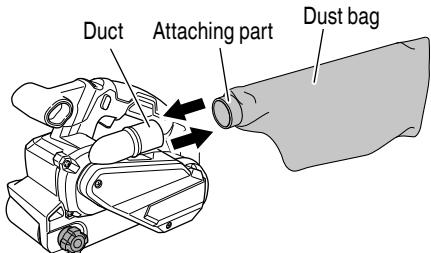

Fig. 10
- Attaching and removing the dust bag (Fig. 10)